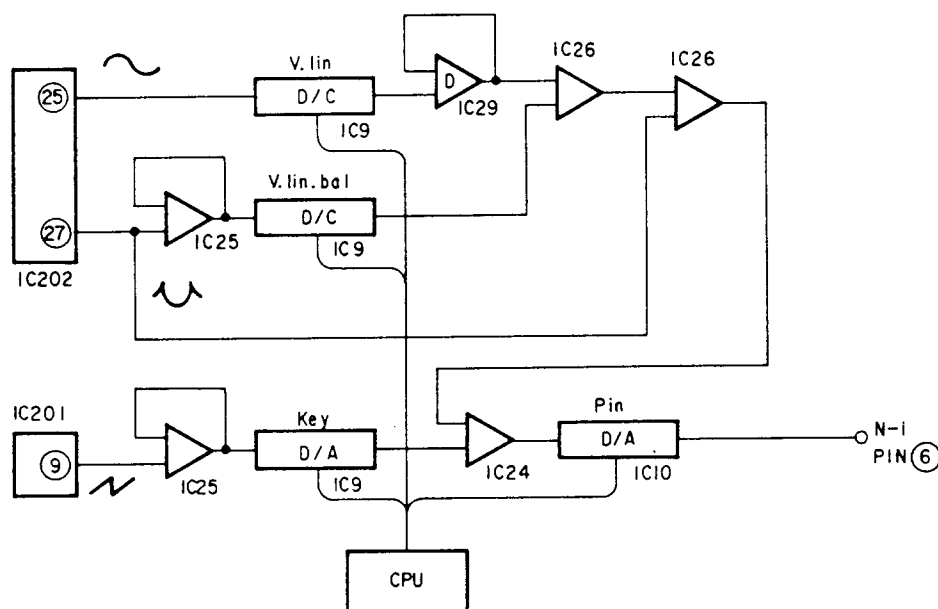

Fig. 3-13 PIN correction block
The parabola wave of pin correction is output to pin ⑮ of connector N-1. This waveform includes the key correction waveform. And the V. lin and V. lin bal correction waveforms are added to compensate the pin distortion by the V. lin adjustment. The block diagram of pin correction waveform circuit is as shown in Fig. 3-13.